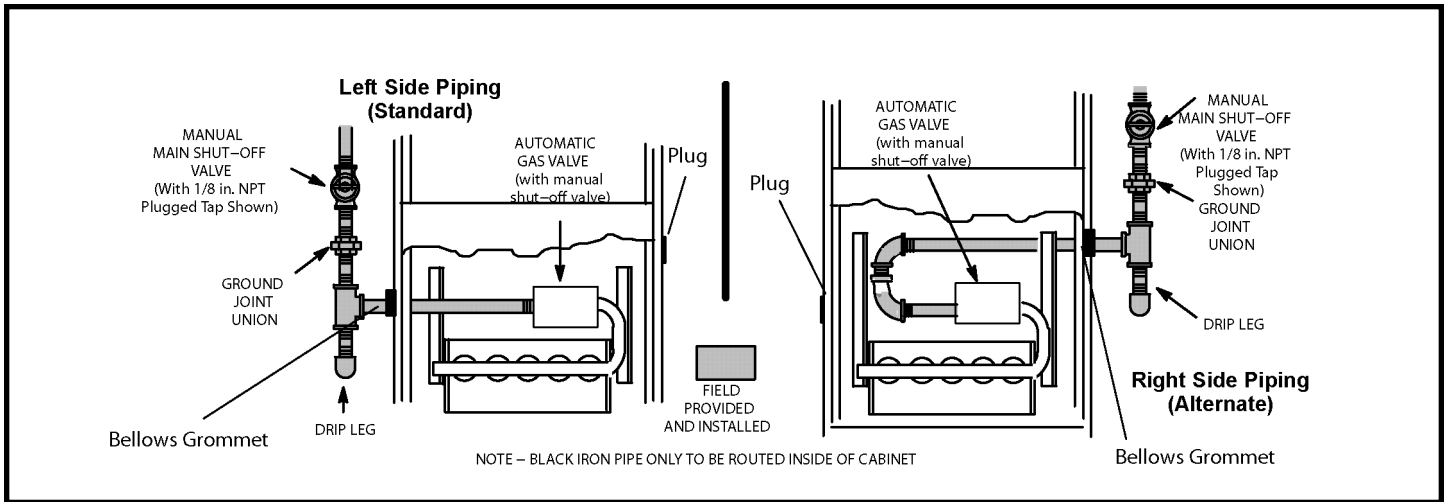

Figure 50
1. Gas piping may be routed into the unit through either the left or right hand side. Supply piping enters into the gas valve from the side of the valve as shown in Figure 50. Move bellows grommet to side of the cabinet which the gas line enters. Ensure opposite gas line entrance is plugged with supplied plug.
3. Gas piping must not run in or through air ducts, clothes chutes, chimneys or gas vents, dumb waiters or elevator shafts. Center gas line through piping hole. Gas line should not touch side of unit. See Figures 50.
These units are factory set to run at the middle of the heating rise range as shown on the unit rating plate. If higher or lower rise is desired, reposition the jumper plug marked HEAT - A, B, C, C (see Figure 50). To determine what CFM the motor is delivering at any time, count the number of times the amber LED on the control board flashes. Each flash signifies 100 CFM; count the flashes and multiply by 100 to determine the actual CFM delivered (for example: 10 flashes x 100 = 1000).